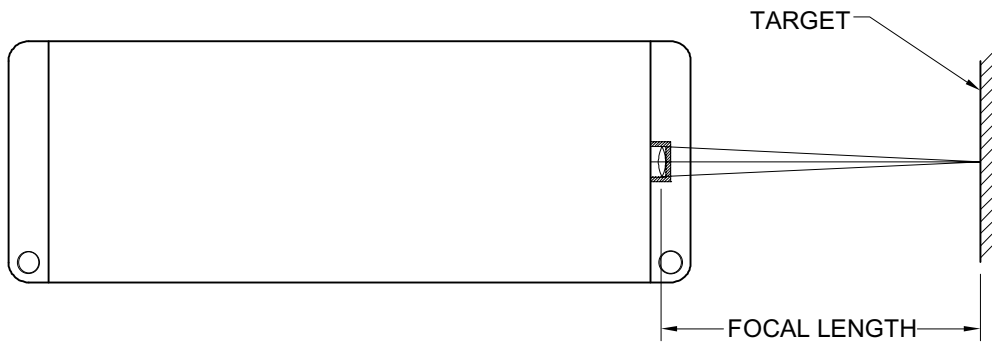
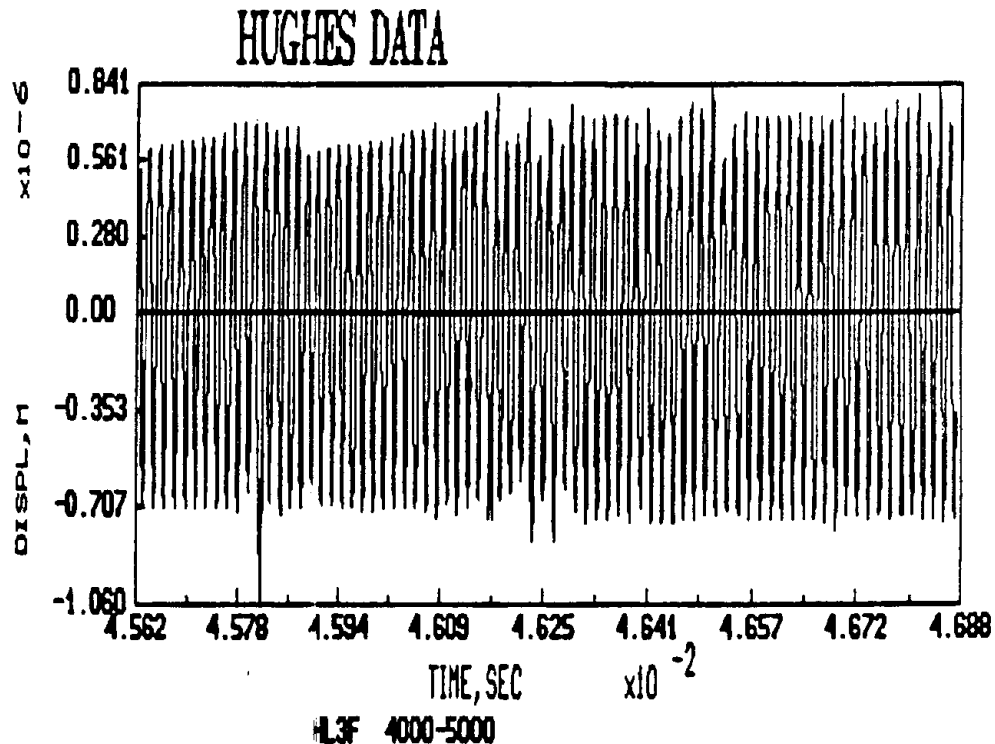

FIG. 11-4 NON-CONTACT MEASUREMENT WITH FOCAL LENS
FIG. 11-10 60 kHz OSCILLATION OF ULTRASONIC TRANSDUCER HORN
3. For very high frequency response or small target, you may use a single-aperture laser head and a lens to focus the laser beam to a focal point at the target as shown in Fig. 11-4. Here the focal length is about a few inches and the focal spot is less than one thousandth of an inch. The target can be any metallic diffusive or speculative reflector. Typical applications are extremely high frequency and non-contact vibration measurement, such as the magnetic head of a disk drive, ultrasonic wire bonder, etc.
To measure the vibration of an ultrasonic wire bonder, the configuration shown in Fig. 11-4 is used. The focal length of the lens is 50 mm. The resonance frequency of the transducer is 60 kHz. The laser beam can be focused on the transducer horn or the capillary. A typical measured displacement is shown in Fig. 11-10. The displacement can be measured to a resolution of a few μm .